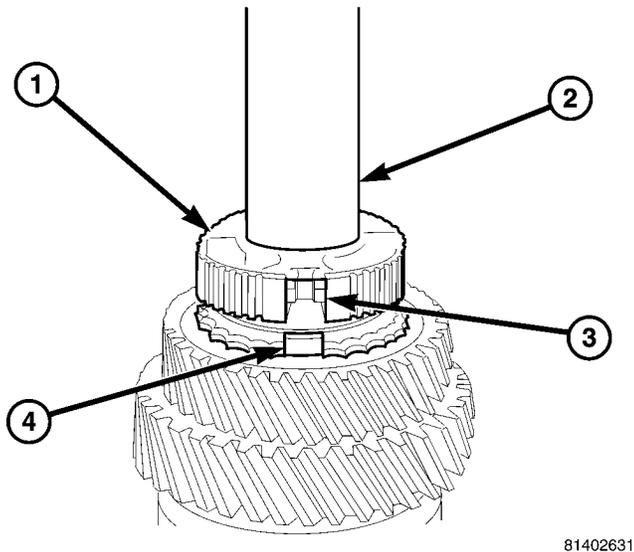

Fig. 75 REVERSE HUB INSTALLER
(19) Install reverse gear synchronizer hub (1) on mainshaft with Installer W-262 (2) and a press. Align hub detent opening (3) with friction ring (4) lug (Fig. 75).